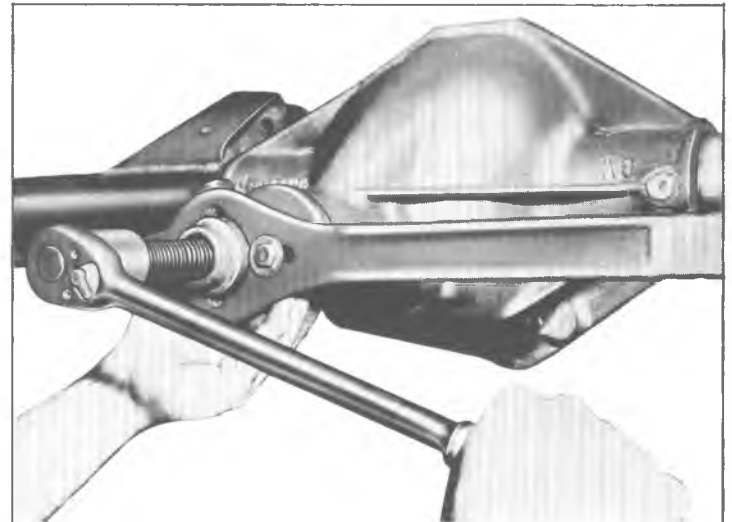

Fig. 60—Drive Pinion Flange Removal
7. Thread pilot end of Tool J-8614-3 into small O.D. end of J-8614-2. Then with J-8614-11 installed as in Step 6, insert J-8614-2 into J-8614-11 and turn it 45 degrees to locked position. Remove flange by turning J-8614-3 while holding J-8614-11 as shown in figure 60.